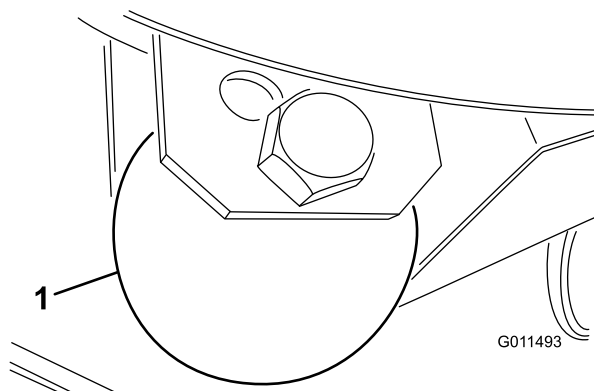

Figure 24
1. Remove the bolt and nut securing the gage wheel to the cutting unit brackets (Figure 24).
Adjust the skids by removing the flange bolt and nuts, positioning them as desired, and installing the fasteners (Figure 24).